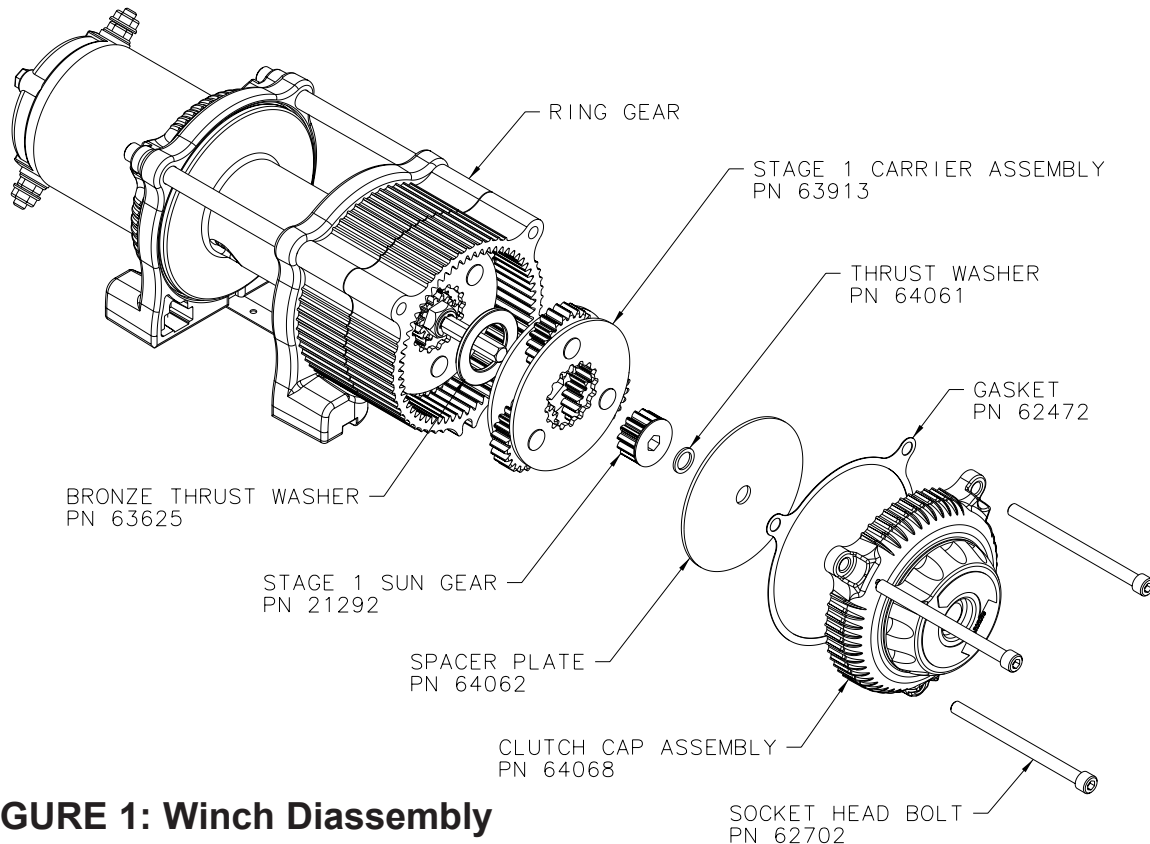

FIGURE 1: Winch Disassembly
Set winch feet down on a bench or work surface. Move the Clutch Dial to the **ENGAGED** position. Use a 3/16" Allen wrench to remove (3) 1/4-20 x 3.5" Socket Head Bolts from the Clutch Cap Assembly (Figure 1).